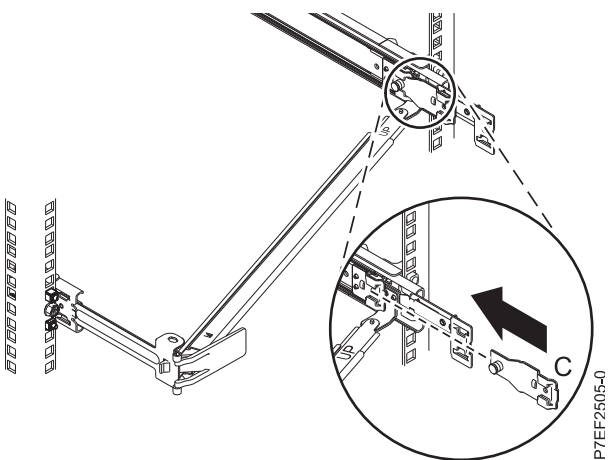

Figure 14. Installing the mounting bracket into the slide rail
6. Attach the cable-management stop bracket (**B**) to the slot on the inside of the left slide by sliding the stop bracket (**B**) into the slide rail until the spring-loaded pin snaps into place. For details, see Figure 14.